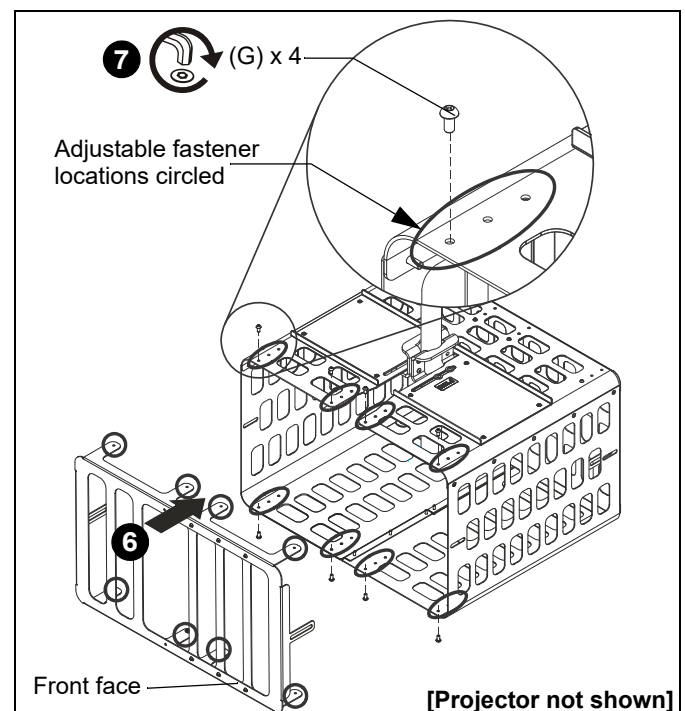

Figure 4
6. Slide the front face of the PG4A back into the PG4A, aligning the fastener holes on the front face with the fastener holes at the selected cage size. (See Figure 4)
7. Fasten PG4A front face in place using four security button head screws removed in **Step 1**, and four 10-24 x 3/8" security button head screws (G). (See Figure 4)